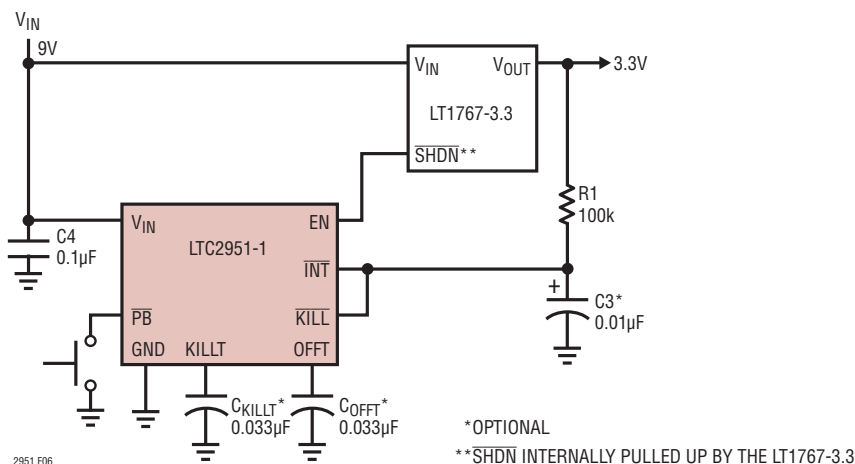

Figure 6. No  $\mu\text{P}$  Application
**$\bar{K}ILL$  (Pin 8/Pin 5):**  $\bar{K}ILL$  Input. Forcing  $\bar{K}ILL$  low releases the enable output. During system turn-on, this pin is blanked by a 512ms internal timer ( $t_{\bar{K}ILL, ON BLANK}$ ) to allow the system to pull  $\bar{K}ILL$  high. This pin has an accurate 0.6V threshold and can be used as a voltage monitor input. If unused, connect to a low voltage output supply (see Figure 6).
Figure 6 shows how to connect the  $\overline{\text{KILL}}$  pin when there is no circuitry available to drive it. The minimum pulse width detected is 30 $\mu\text{s}$ . If there are glitches on the resistor pull-up voltage that are wider than 30 $\mu\text{s}$  and transition below 0.6V, then an appropriate bypass capacitor should be connected to the  $\overline{\text{KILL}}$  pin.